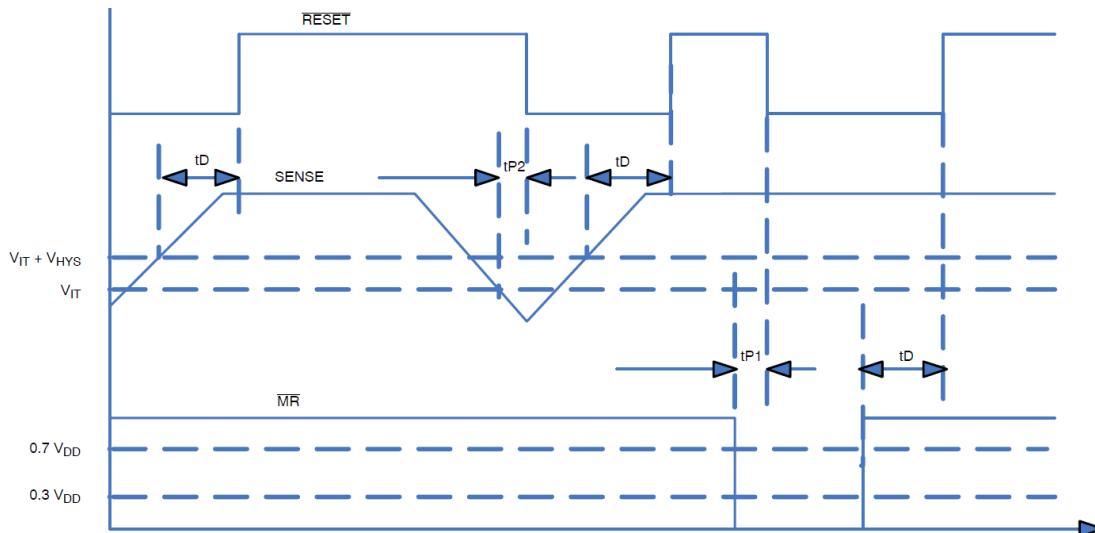

Figure 2
- c. The expected behavior of the device can be seen in Figure 2.